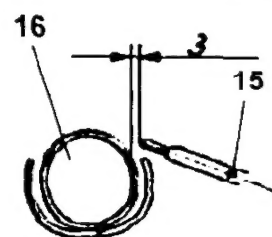

FIG. 7
Open the oven door, remove the oven base plate (4), replace the injector (17). Ensure that the air regulating bush is repositioned as indicated in the technical data plate, gas group point. Quote A = depending on the gas group. (Fig. 7).